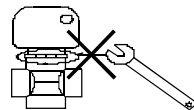

Figure 11. Installation prompt diagram
- It is absolutely forbidden for a wrench to hit the bottom plate of the water flow switch, which will cause the water flow switch to deform and fail. (Figure 11)